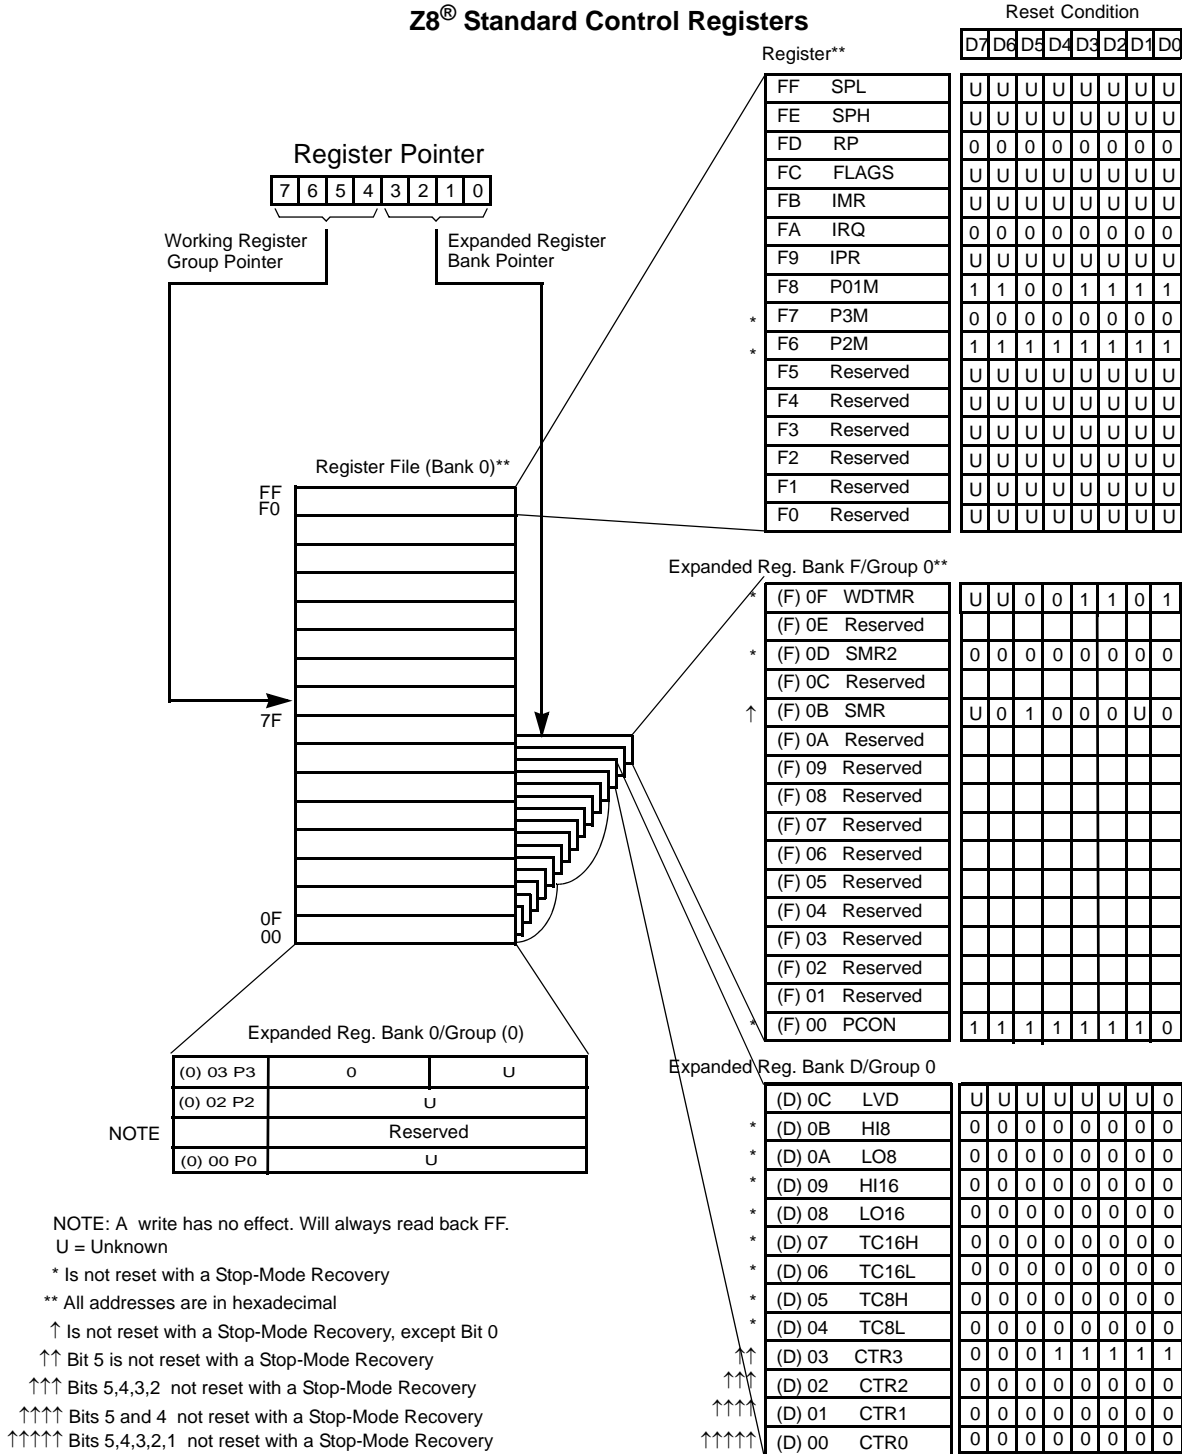

Figure 12. Expanded Register File Architecture
- ▶ **Note:** An expanded register bank is also referred to as an expanded register group (see Figure 12).
Example: (See Figure 12 on page 22)